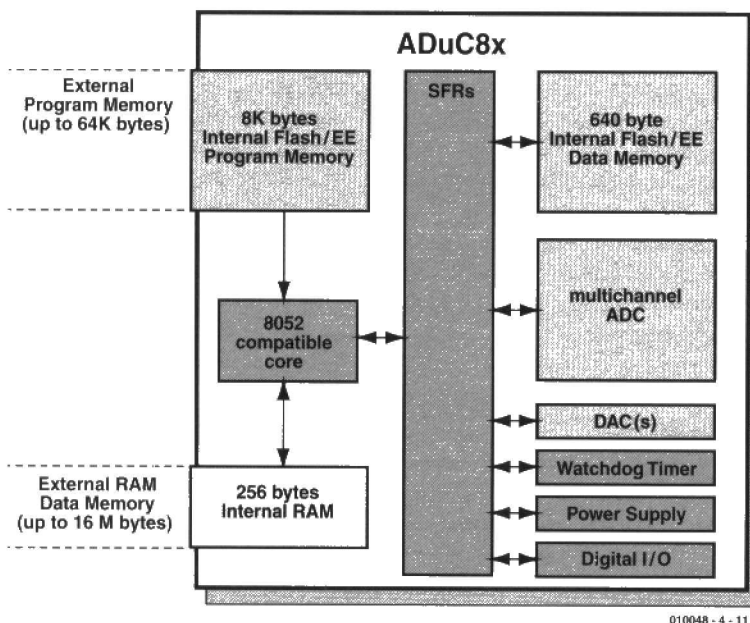

Figure 1. The SFR register.
- Communication between the microcontroller core and the on-chip peripherals uses the 8051-style Special Function Register (SFR) (**Figure 1**). Further information on the meaning of the individ-